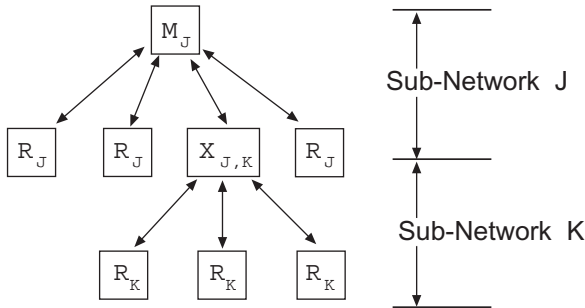

Figure 19. Simple Extended SAF Network
Figure 19 depicts a two-level network utilizing a single Master (M) and an Extension (X) radio. In this network, messages directed to Remotes in the “K” sub-network, will be relayed through Extension radio $X_{j,k}$ to the K-Remotes. Any response from a Remote in sub-network “K” will pass back through Extension radio $X_{j,k}$ to the Master M_j . Radios in sub-network “J” operate on the same set of frequencies and sub-network “K” but with a different radio-frequency hopping pattern.